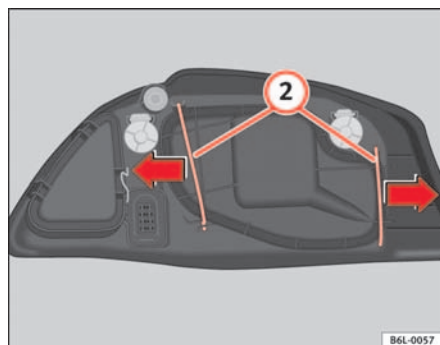

Fig. 150 Dipped headlight lamp
- Remove the loops ② ⇒ fig. 150 outwards in the direction of the arrow and remove the cover.
- Fit the plastic cover and replace the loops ② ⇒ fig. 150.